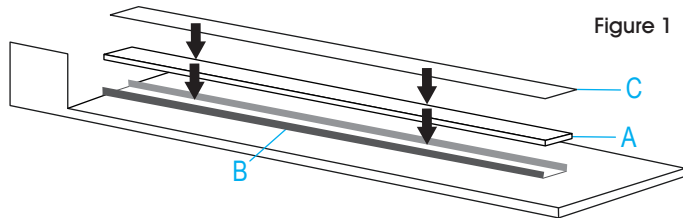

Figure 1
2. Place new silicone rubber pad (A) inside metal channel (B). (See Figure 1)
4. Apply Teflon tape (C) to top of silicone rubber pad (A). (See Figure 1)